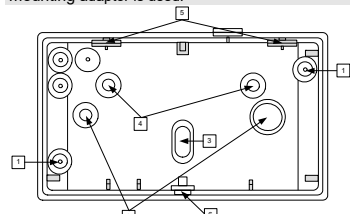

Fig 7: Wireless VITRON Mounting Knockouts
- Open the required mounting knockouts, according to the type of installation (corner, flat or swivel mounting, see Fig. 7)
- If a back tamper protection is required open the back tamper knockout (3, Fig. 7)
- Open the swivel mounting adaptor knockouts (4, Fig 7).